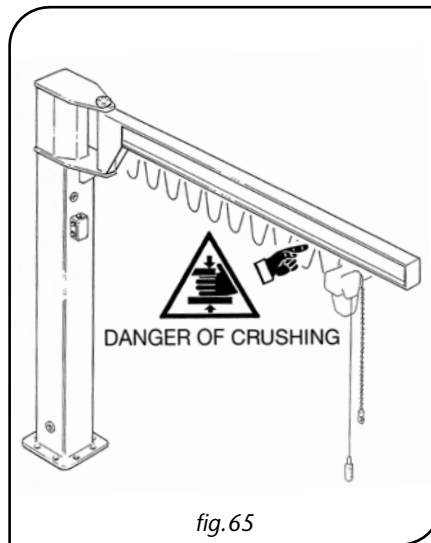

fig.65
- **ALWAYS** check that the sliding track of the trolley is at a height which does not allow the operator to interfere with the hoist/trolley and/or its moving parts. If this isn't possible arrange appropriate shelters or signs positioned in the danger zone (fig. 65).